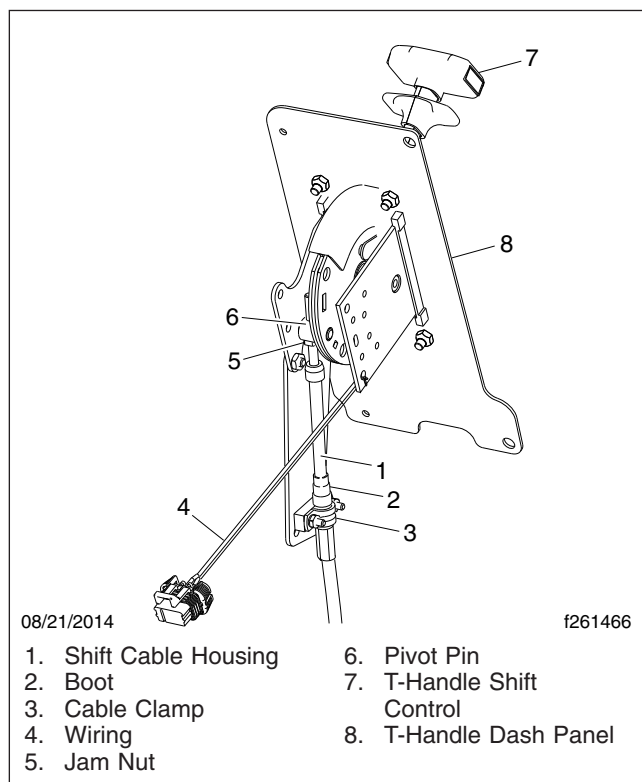

Fig. 3, T-Handle Shift Control Assembly
6. Remove the T-handle dash panel (Fig. 3, item 8) from the dash.
8. Remove the cable clamp that attaches the cable housing to the back of the T-handle assembly. See Fig. 3.